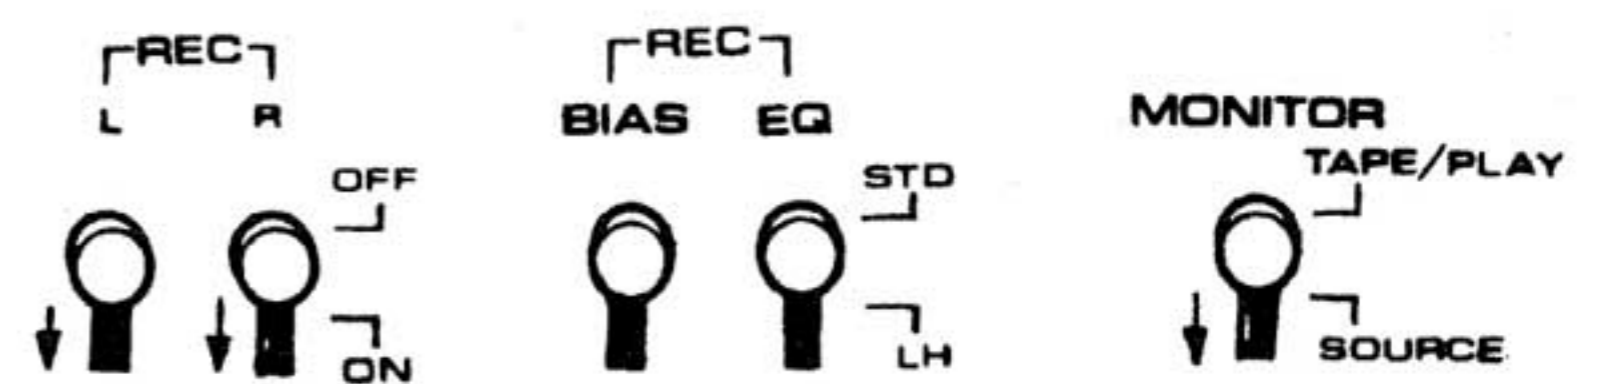

Fig. 35
3. Position REC switches (L & R) to ON (Fig. 35).